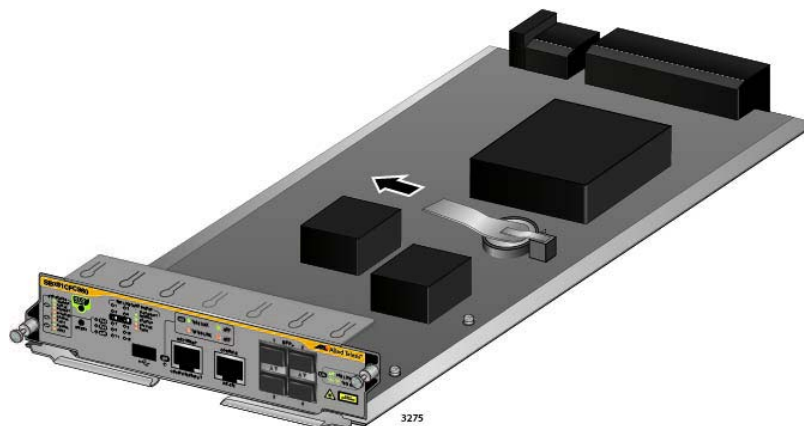

Figure 78. Removing the Battery Insulator
- Carefully remove the battery insulator tab on the controller card by sliding it out from between the battery and battery clip, as shown in Figure 78.